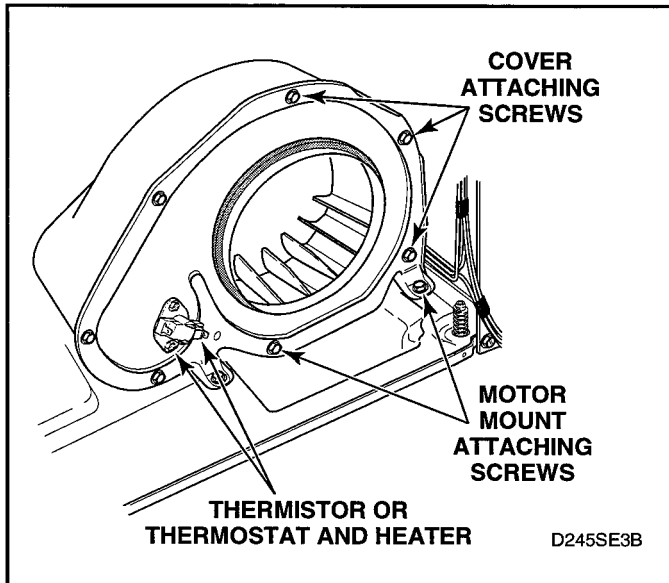

Figure 5-16
- Remove two screws holding motor mounting bracket to dryer base. See figure 5-16.
1. Remove screws holding cover to housing. See figure 5-16.